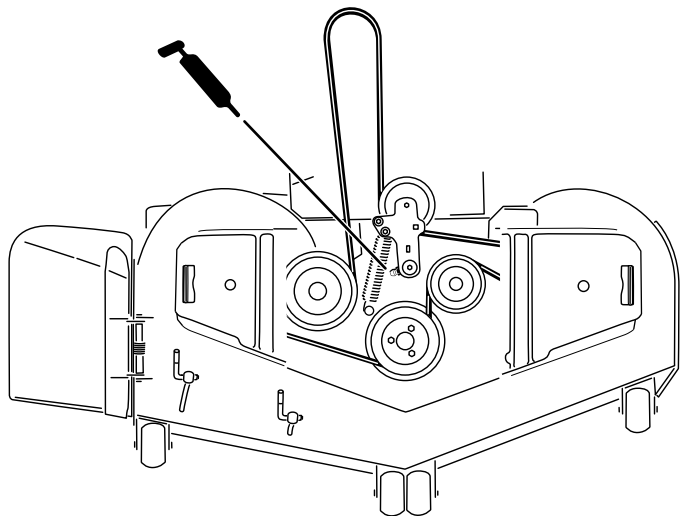

Figure 48
5. Grease the mower deck idler-pulley pivot until grease comes out the bottom (Figure 48).